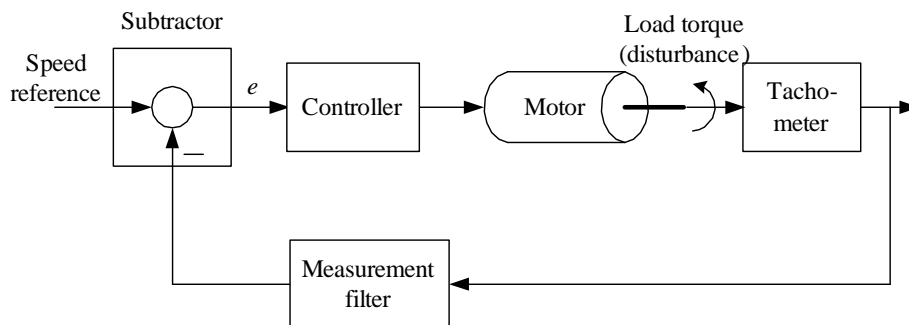

Figure 12.2:
1. Figure 12.2 shows the speed control system. The control error, e , is